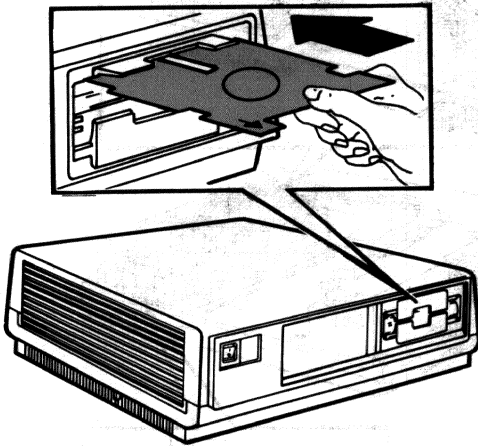

Figure 5-16 Inserting Protective Card
- c. Insert the protective card into the upper drive(s) and close all diskette drive doors. See Figure 5-16.